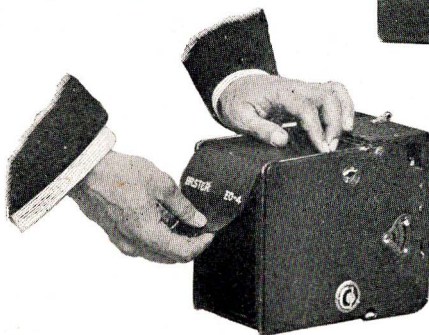

Fig. 5.
3. Cut the gum slip that holds the end of paper and pass paper over the back as shown in Fig. 5.